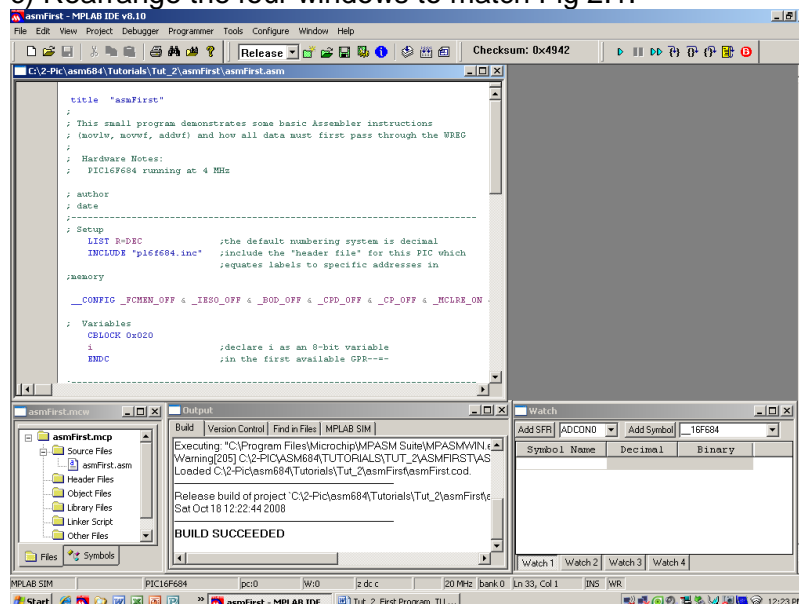

Fig 2.1: Workspace arrangement
- c) Rearrange the four windows to match Fig 2.1.